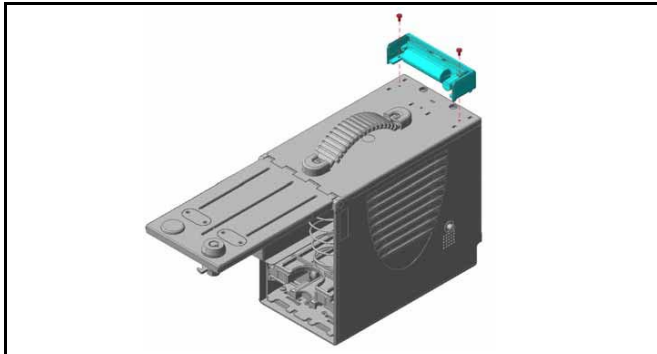

Figure 3: Securing the ICB Module Housing in the Support Bracket
4. While holding the Support Bracket in position, set the ICB Module housing in position, and then secure the ICB Module housing to the Support Bracket with two screws (**Figure 3**).